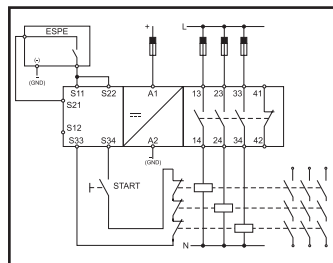

Fig. 10: ESPE: 1 uscita a relè a 2 fili /
- ESPE with one relay two-wires output: connect the output wires to the S11 and S22 terminals; short-circuit S11 with S22, leaving S12 not connected (fig. 10